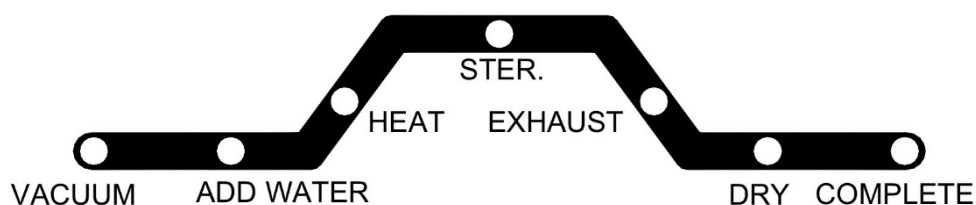

Figure 45
- D. Press the **START** button, the setting temperature, duration, and dry time displayed two times on the three-digit display, and then the sterilizer will automatically run through the selected program. The current progress of the sterilization cycle is indicated by the illuminated LED on the Process Status Indicator. (Figure 45)